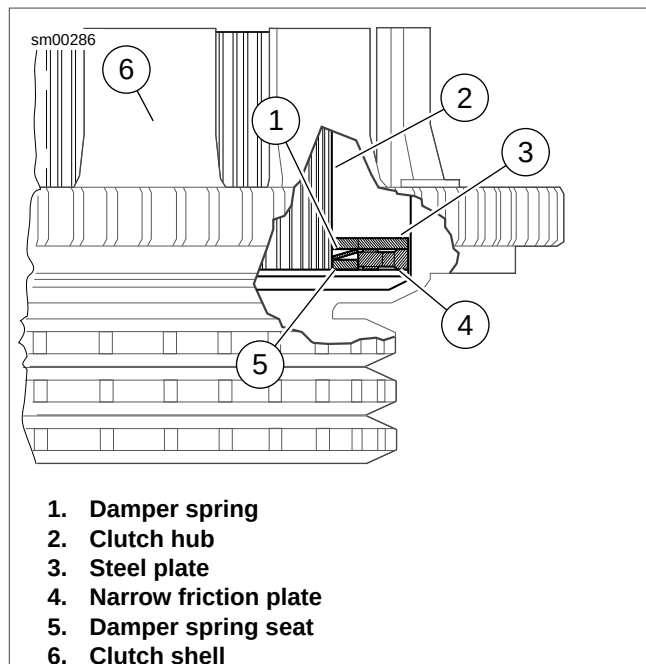

Figure 5-36. Clutch Pack Stack-Up (Cut-Away View)
3. See Figure 5-36. Install damper spring seat (5) on clutch hub so that it seats inboard of narrow friction plate (4).
4. Install damper spring (1) on clutch hub with the concave side up (facing opposite damper spring seat).